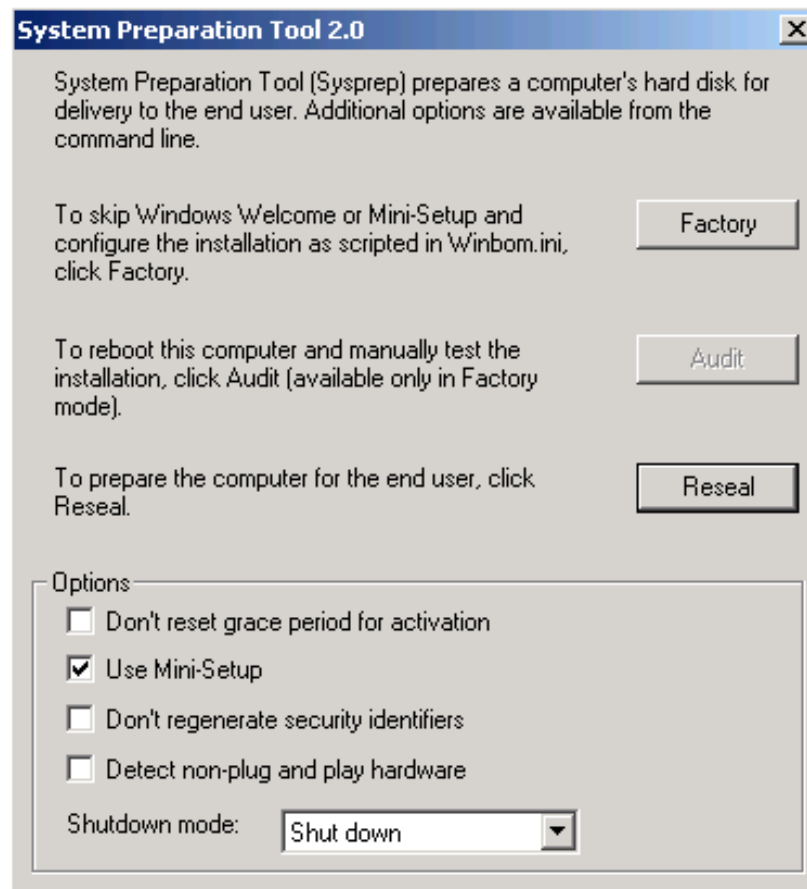

Figure 3-3 Options for the System Preparation Tool
- Select **“mini-setup”**. Ensure that the Shutdown Mode is set to **“Shutdown”**, then click **reseat** as shown in Figure 3-3 on page 58.